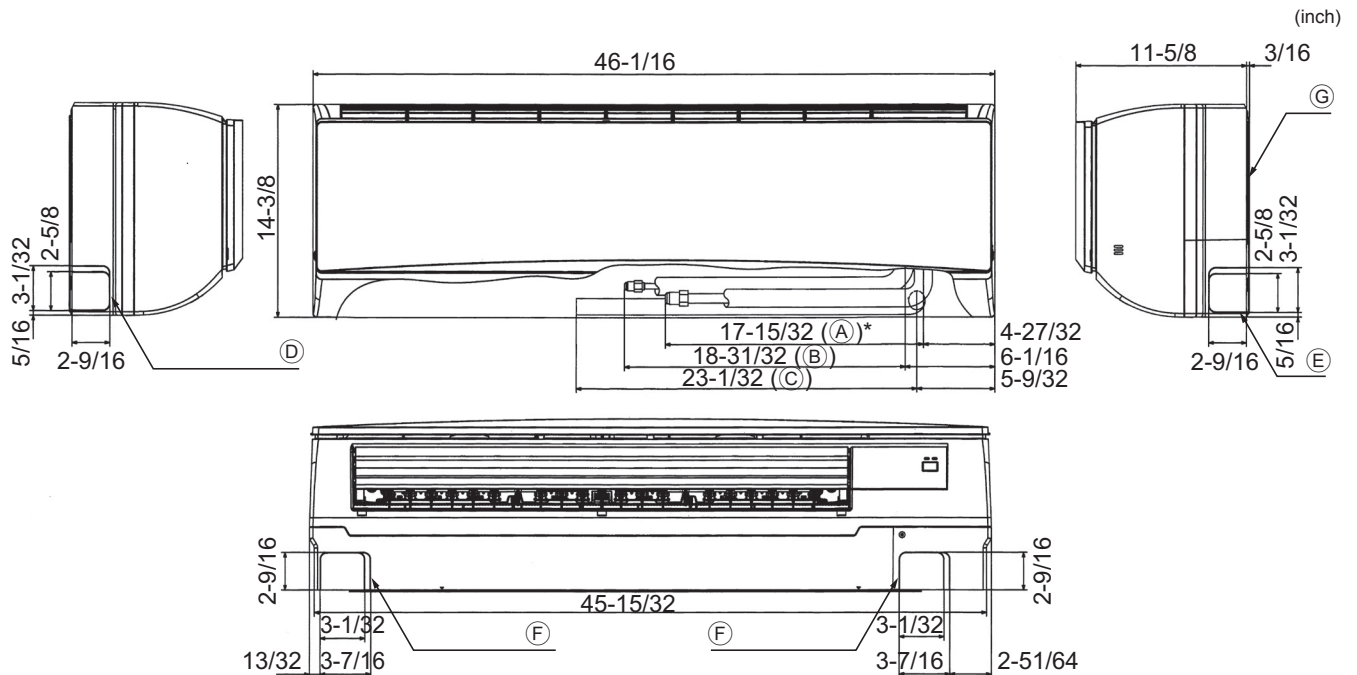

Fig. 4-2
4.2. Positioning refrigerant and drain piping (Fig. 4-2)
- (A) Gas pipe * Indicates the condition with accessories mounted.
- (B) Liquid pipe
- (C) Drain hose
- (D) Left-side piping knockout hole
- (E) Right-side piping knockout hole
- (F) Lower piping knockout hole
- (G) Mount board (D)